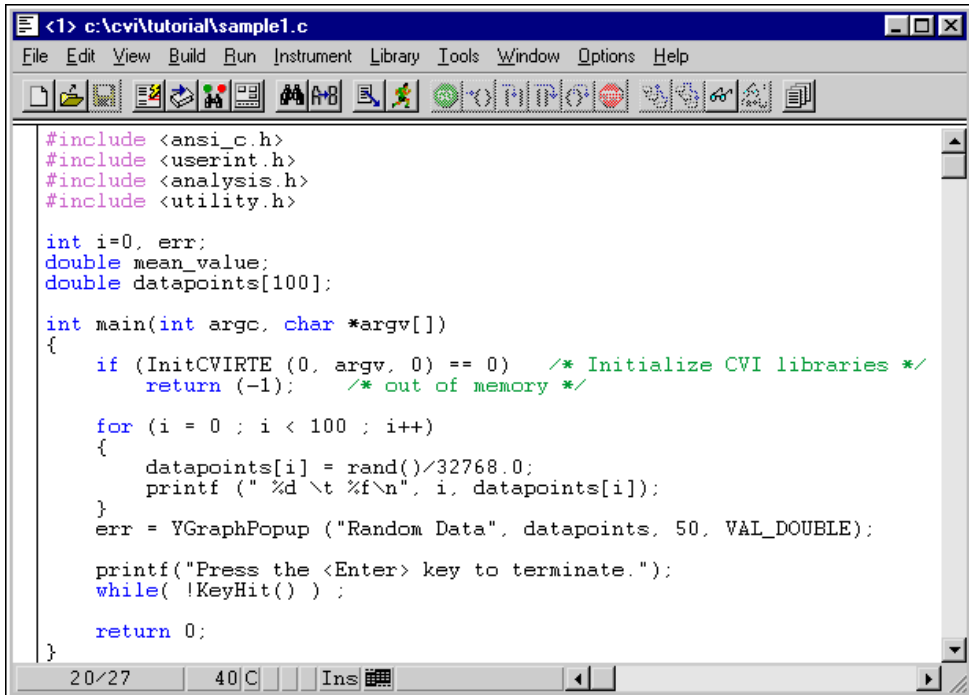

Figure 3-5. Source Window with Code Inserted from Function Panel
4. In the `sample1.c` source code, the `YGraphPopup` function appears where the cursor was located, as shown in Figure 3-5. Confirm that the new function appears immediately after the for loop.